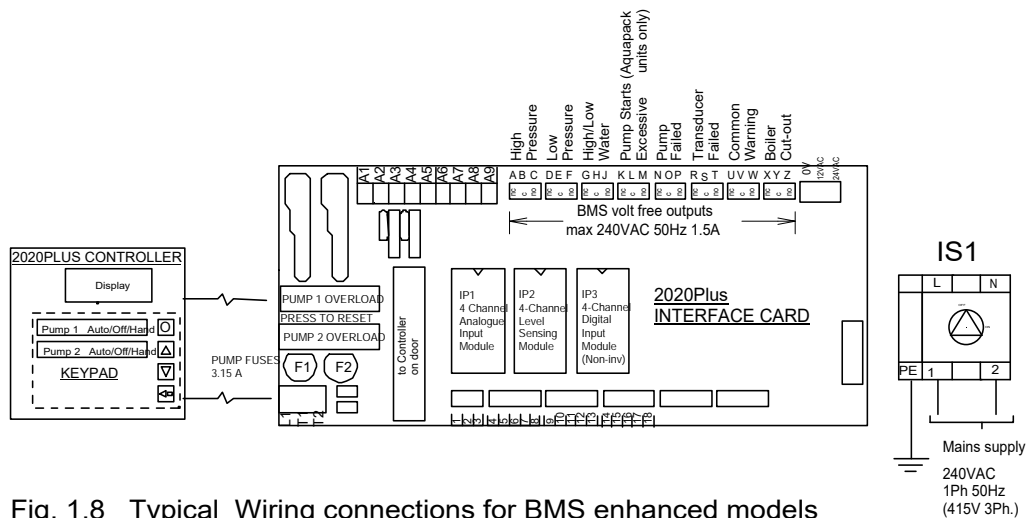

Fig. 1.8 Typical Wiring connections for BMS enhanced models
- 1.3.6.3 Connect incoming electrical mains supply to identified terminals in panel (see fig. 1.8). Ensure voltages and frequency indicated on the motor nameplates and wiring diagrams correspond with supply mains data and that the supply fuse ratings are correct for the total current rating of the equipment. Note: some units require a 3 Phase supply for larger applications. Refer to wiring diagram supplied with the unit or contact AquaTech-Pressmain.